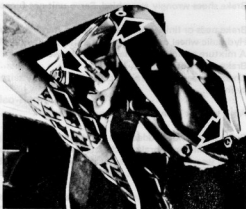

Fig. 9.27. Support bracket mounting bolts (Sec. 17)
- 4 Remove the two bolts and one nut securing the pedal mounting bracket to the dash panel and left-hand support plate (see Fig. 9.27).